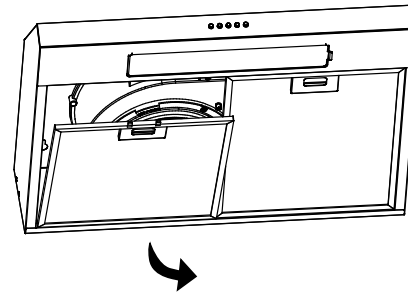

Fig 5
-Mounting the air outlet adapter to the top opening A by securing two screws(Fig.5)and make sure the knob is in the right position(Fig.6)